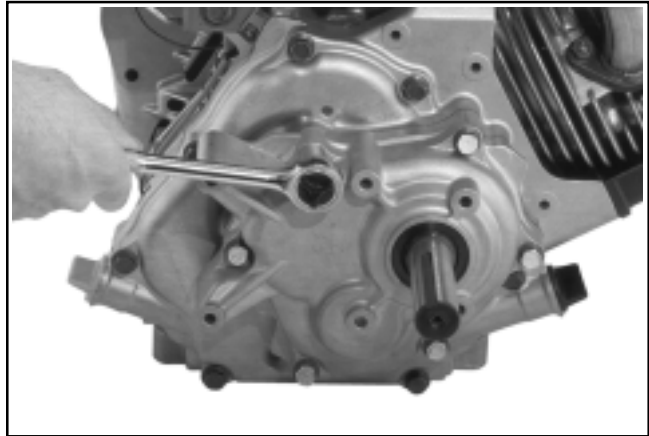

Figure 9-69. Removing Housing Cover Screws.
2. Remove the six reduction cover mounting screws. See Figure 9-69.